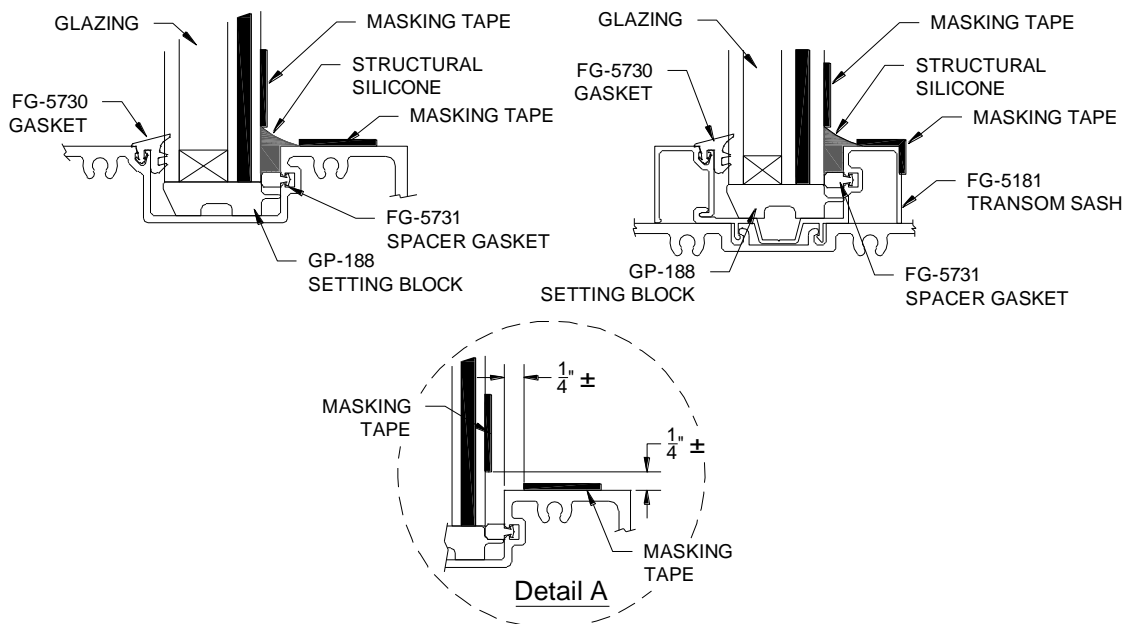

Figure 36: Wet Glazing Interior of Transom
- 13.1.3.16 Clean glass and transom framing with isopropyl alcohol and mask off glass with 1" wide (minimum) low-adhesion masking tape. Leave 1/4" exposed metal between the joint and the masking tape. Reference Figure 36 for masking tape application location.
- 13.1.3.17 Fill cavity around full perimeter of Transom D.L.O. with Structural Silicone Sealant, as shown in Figure 36; care should be taken not to leave any voids and eliminate air bubbles in sealant. Immediately tool, creating a finished joint with a beveled/curved joint surface.